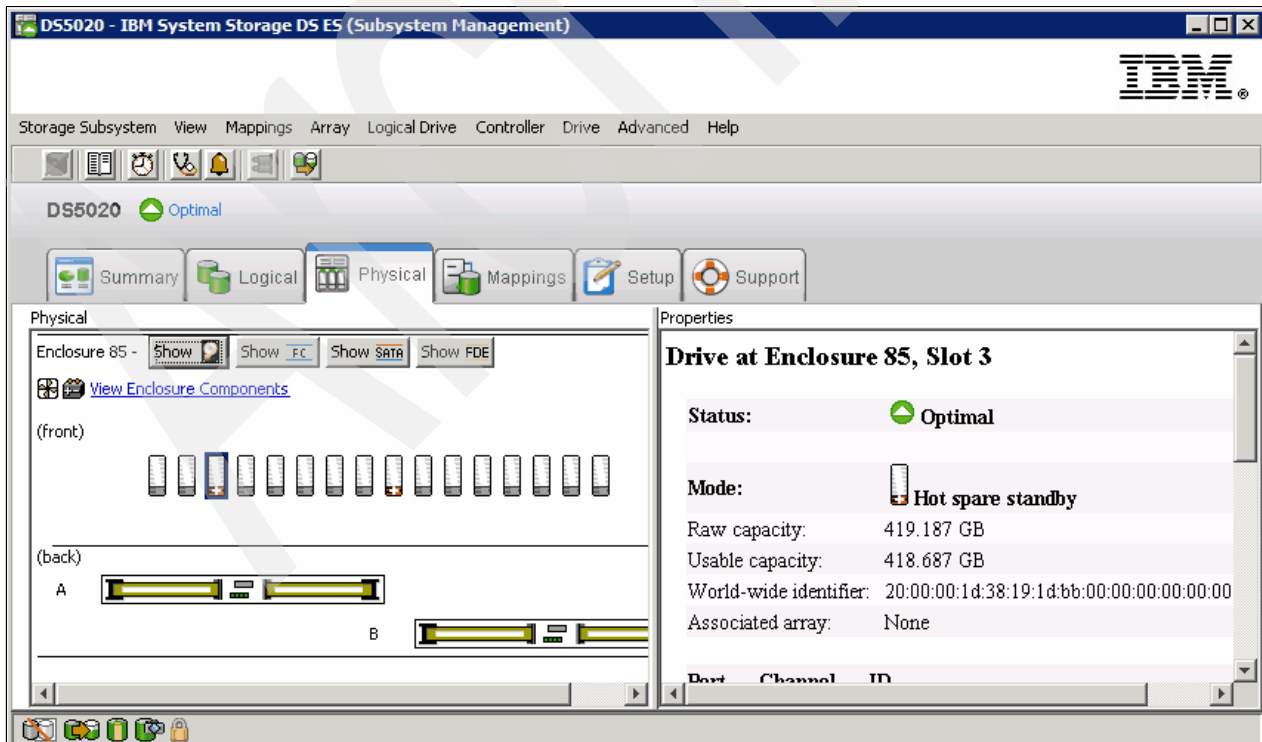

Figure 4-51 Automatic hot spare creation
2. Select the **Physical** tab to view the results of the automatic hot spare creation. You see the drives assigned in Figure 4-51.